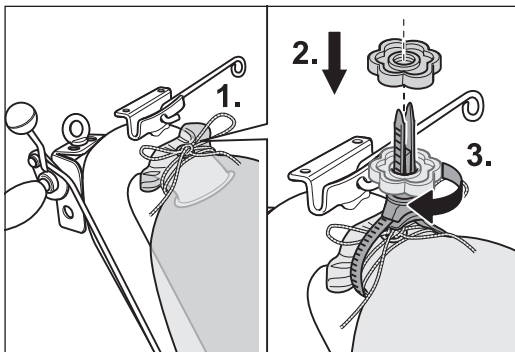

Fig. 6 Mount the dust bag without creasing using the cord (1.) and the MultiClip (2. and 3.).
- 6 Attach the dust bag with the cord and the MultiClip at the end of the guide tube (Fig. 6) and make sure that the opening of the guide tube is not blocked.